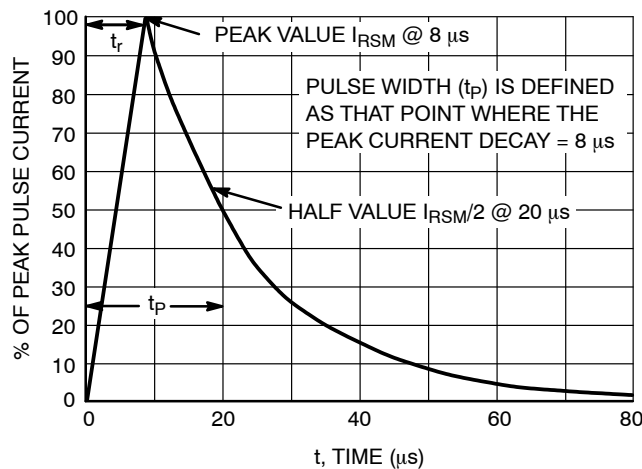

Figure 11. 8 × 20 μs Pulse Waveform
1. Nonrepetitive current pulse per Figure 11.